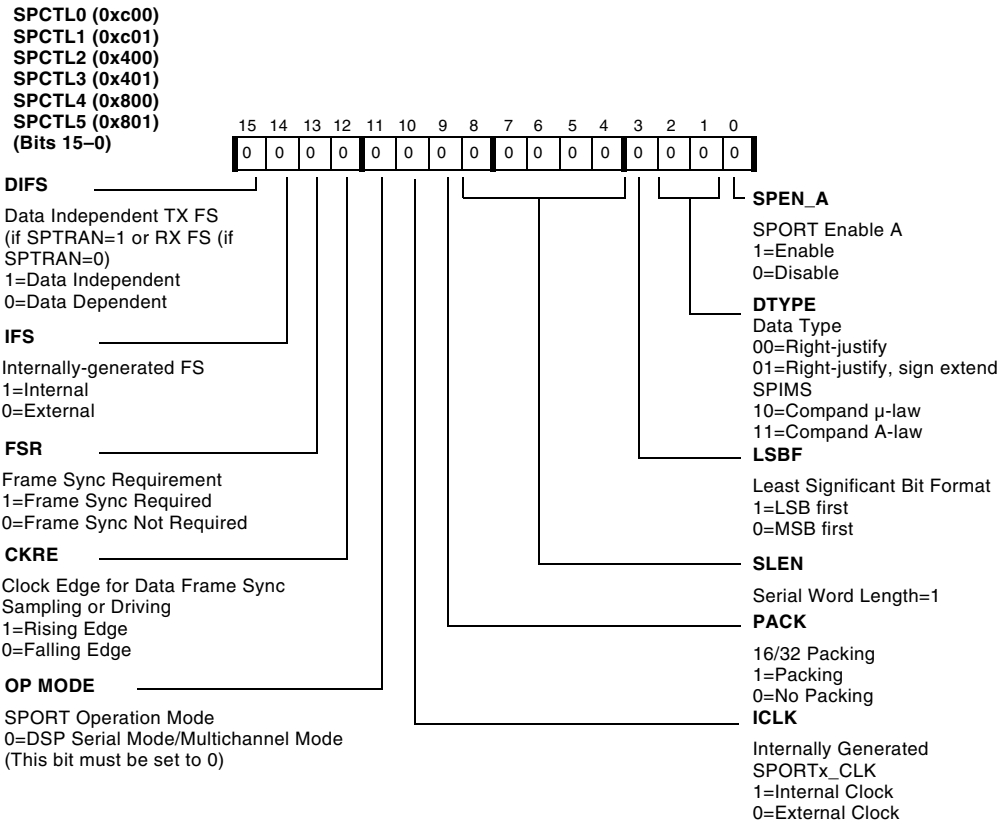

Figure A-19. SPCTLx Control Bits for Standard DSP Serial Mode (Lower)
- Figure A-18 and Figure A-19 provide bit definitions for the SPCTLx register in Standard DSP Serial mode.